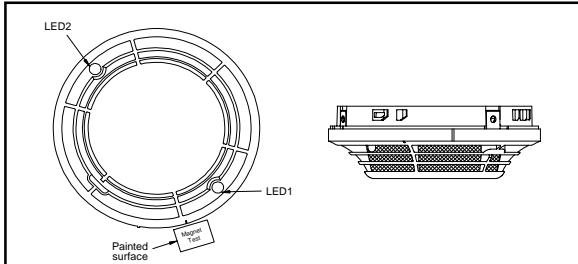

Figure 1. Test Magnet Positioning
1. Test the sensor by positioning the test magnet (Model M02-24-optional) against the sensor body approximately 2cm from LED1 in the direction of the metering socket as shown in Figure 1.